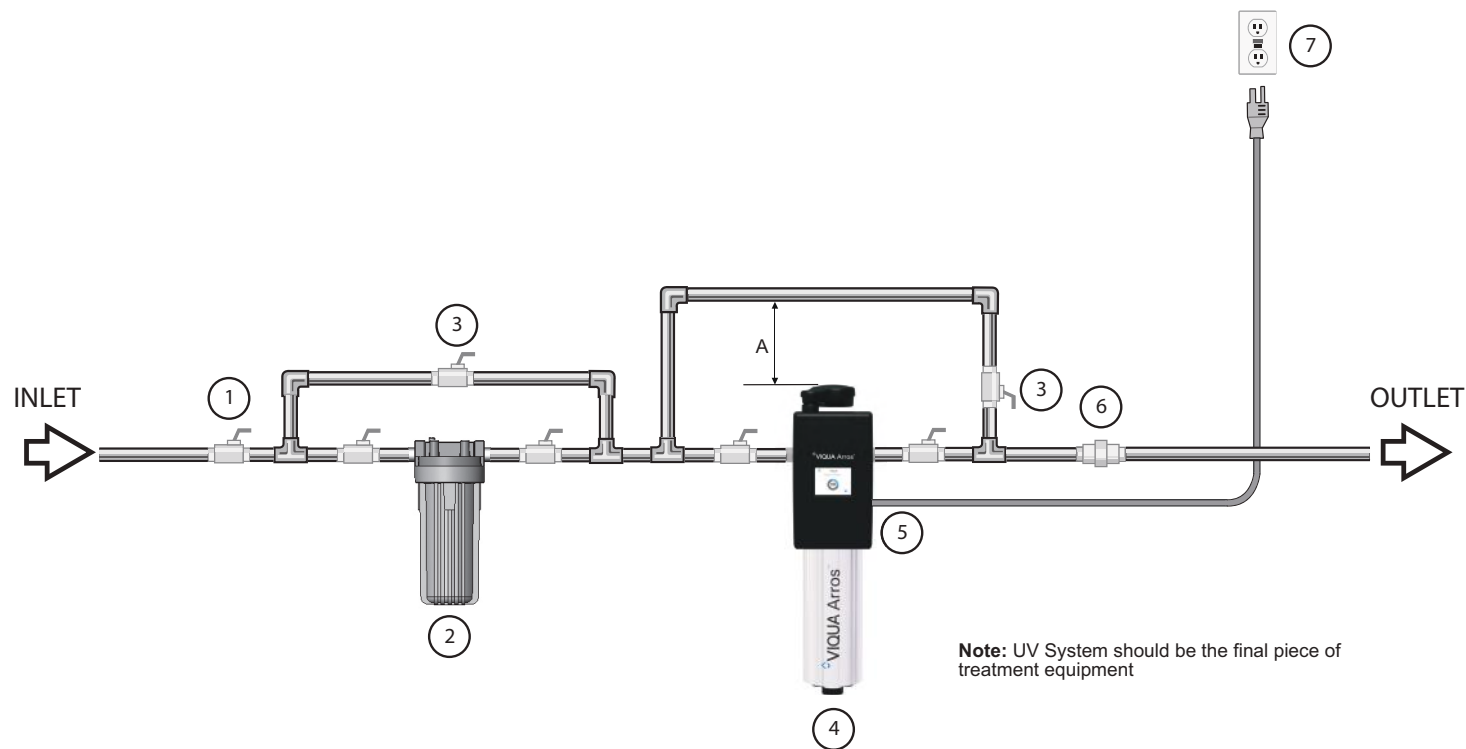

Figure 3 UV System
- Determine appropriate indoor location for the UV System. Refer to Figure 3.
- Make all necessary plumbing connections. Refer to Figure 3.
1. Figure 3 shows the installation of a typical UV System and the related components that may be used for the installation. The use of a by-pass assembly is recommended in case the system requires “off-line” maintenance. In this case, note the system requires a supplementary disinfectant for the distribution system if any water is used during by-pass condition. In addition, during by-pass, the water will NOT be treated and a “DO NOT CONSUME THE WATER” tag should be physically installed on the by-pass assembly until such time as the system is sanitized and returned to service. For more information, refer to Section 3.2. If the water is to be consumed while the system is off-line, the water must be boiled for twenty minutes prior to consumption.